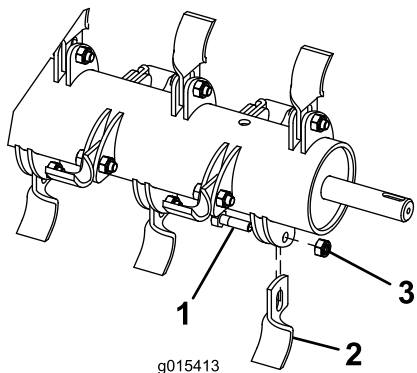

Figure 12
1. Holding the blade in a rag or thickly-padded glove, remove the nut, blade bolt, and blade (Figure 12). Discard the blade, nut, and bolt.
2. Install a new blade with a new nut and blade bolt (Figure 12).